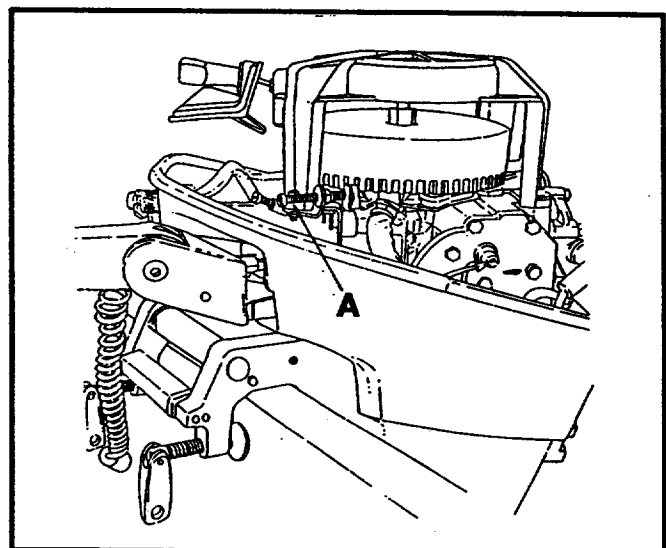

FIGURE 38
- If needed turn the throttle stop adjusting screw (A) to obtain approximately an 800 RPM idle when in neutral gear (Figure 38).